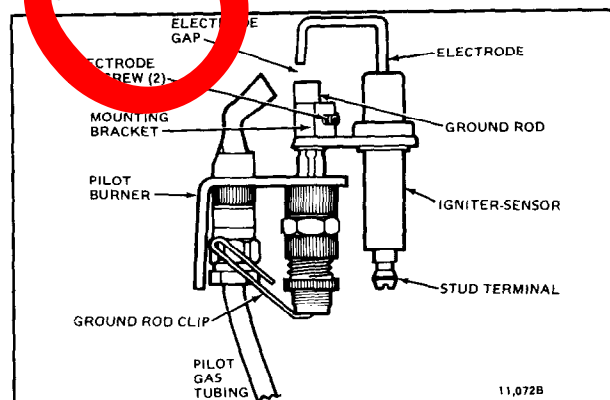

FIG. 9—FASTEN IGNITER-SENSOR TO GROUND ROD.
- Line up ground rod so clip will hug pilot burner and keep ground rod from rotating. Refer to Fig. 9.